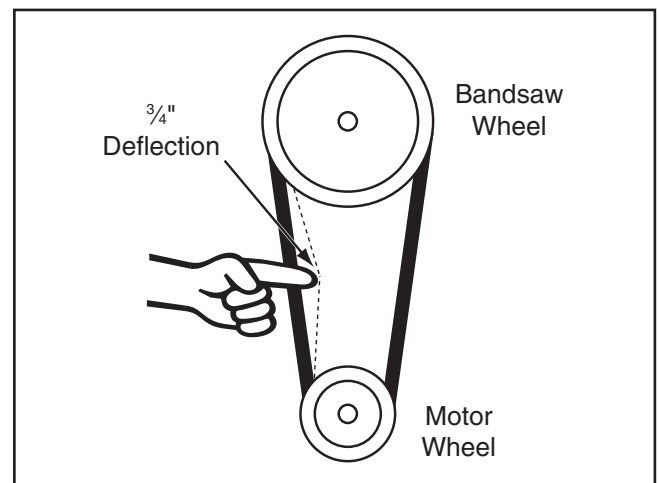

Figure 76. V-belt deflection.
5. Check the V-belt tension by applying moderate pressure between the pulleys (see **Figure 76**). If deflection is not approximately $\frac{3}{4}$ ", re-tension the V-belt until it is.